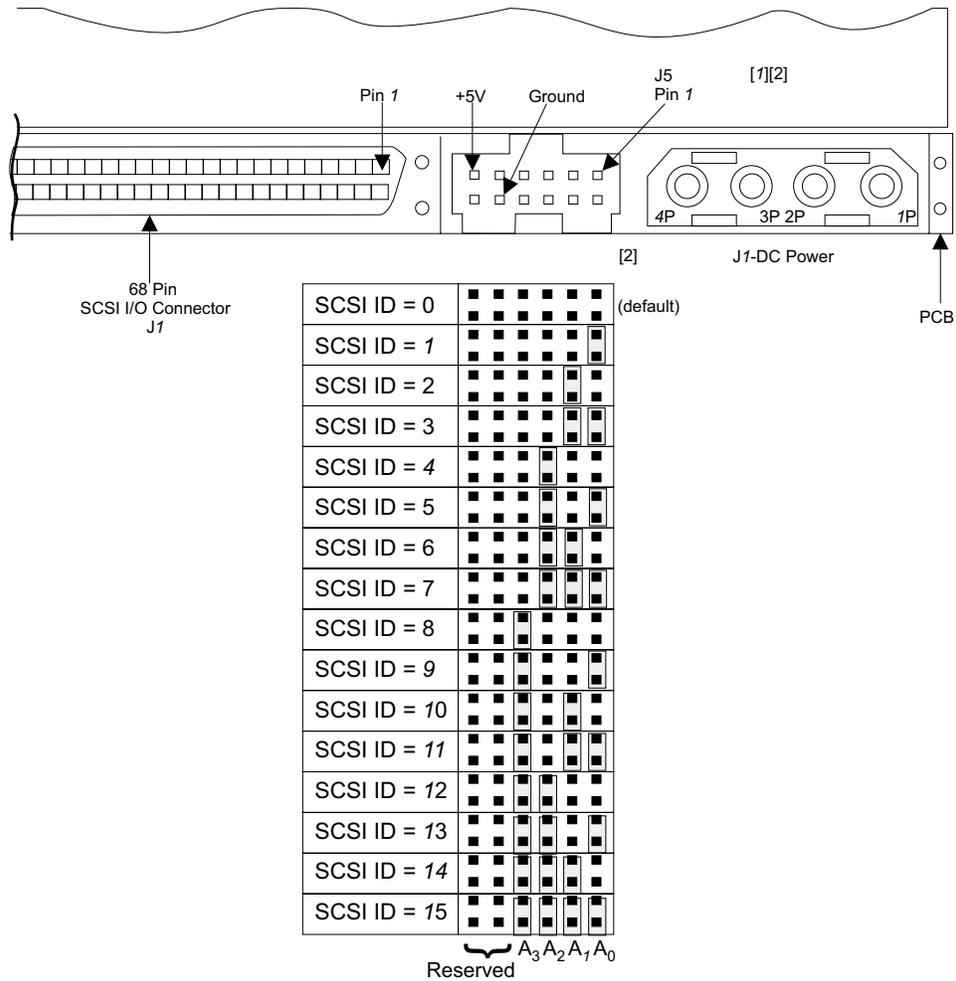

Figure 86. Disk drive jumpers
11. Refer to Figure 86 on page 138.